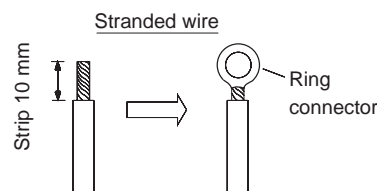

Fig. 30b
- (1) Cut the wire end with a cutting pliers, then strip the insulation to expose the stranded wiring about 10 mm and tightly twist the wire ends. (Figs. 30b and 31a)
- (2) Using a screwdriver, remove the terminal screw(s) on the terminal plate.
- (3) Using a ring connector fastener or pliers, securely clamp each stripped wire end with a ring connector. (Fig. 30b)